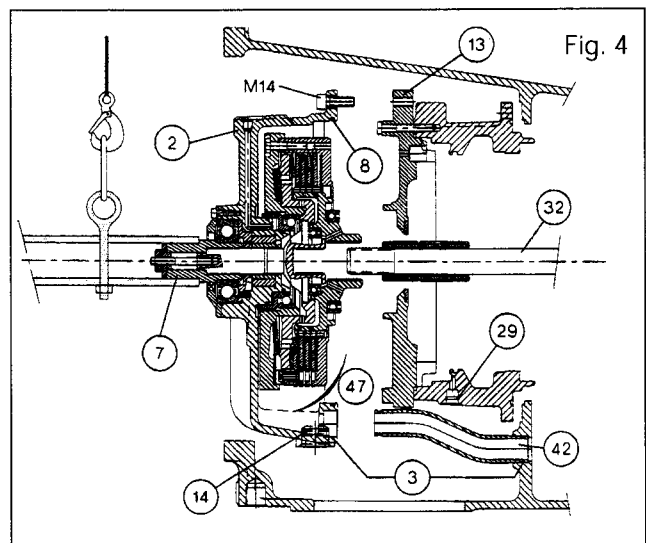
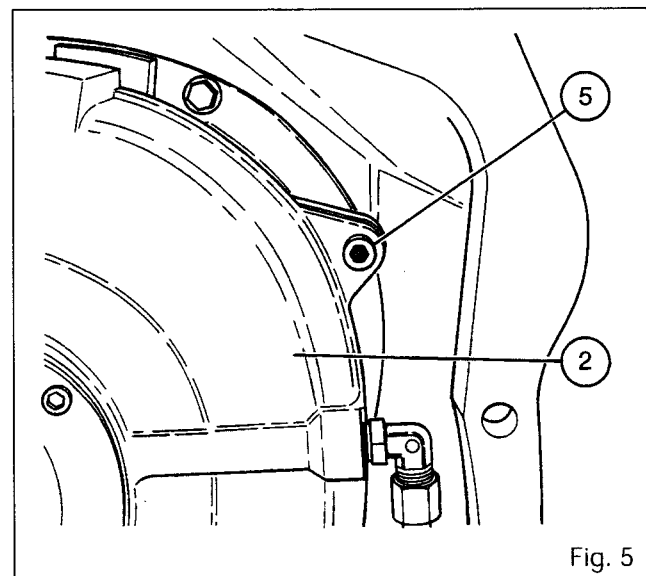

Fig. 4
Fig. 5
8. Remove the tube (76). Unscrew and remove the cover (61), the flange (19), and the tube (17).
9. Remove the grommet (58), the tubes (10) (20) (65) (51), and the fittings (56) (64).
10. Place the on-site made tool (§ F) on shaft (7) (Fig. 5). Clean screw holes (5). Place three M 14 screws in the threaded holes in the housing. (2). Tighten the screws at uniform pressure and alternatively, in order to extract the housing and the gear assembly (47) (Fig.4).
14. Refitting the tube **(42)** (Fig. 4).
Using the tool employed in the operation 10, re-install the clutch assembly **(47)** and the housing **(2)**. Remove the guide studs. Use screws **(5)** to facilitate casing **(2)** engagement on cover **(13)**. Guide tube **(42)** so it can easily be fitted in casing **(2)** (Fig. 4). Once assembly is completed, check that it is correctly mounted without being clamped.